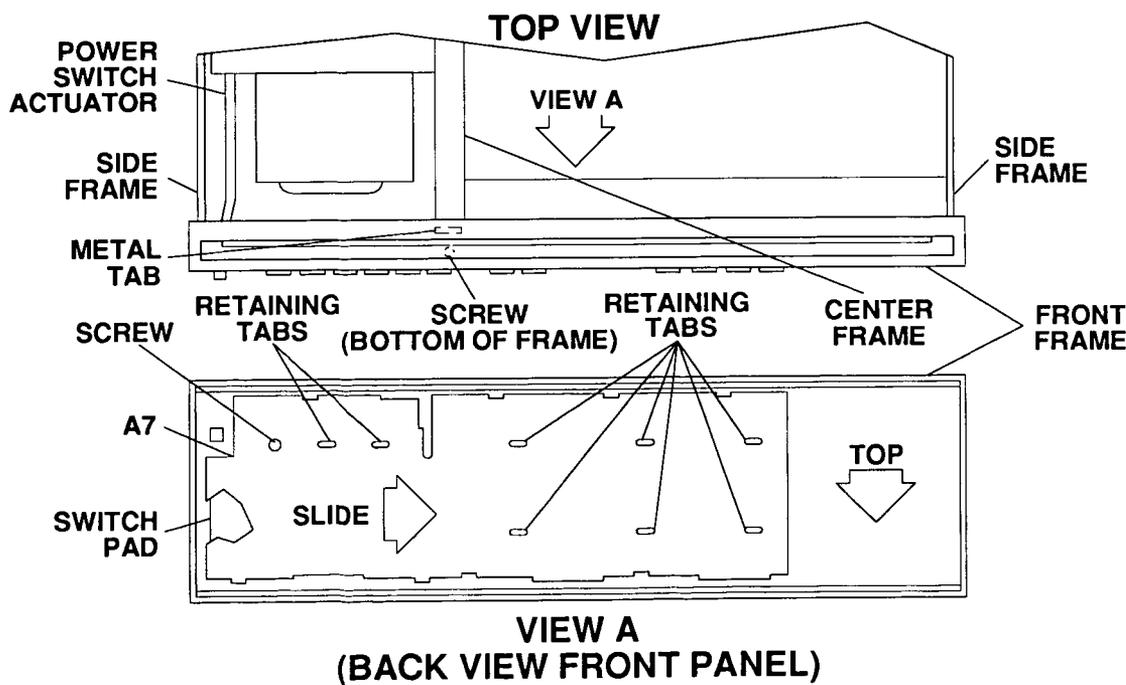

Figure 3-9. Remove and Replace A7 Display Logic PCA
3. Remove the screw (located behind the front panel BLUE key) that holds the front panel to the center frame (refer to Figure 3-9).